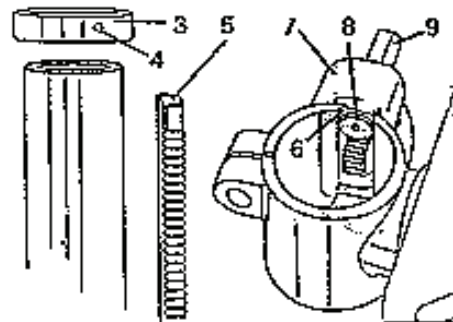

Fig. 4
1. Slacken the setting screw (4) to remove the ring (3).
2. Remove the rack from the column (5).
3. Check the worm gear (8) to see whether it is properly inserted in the bench fastening arm (7) and it touched the gear wheels. The stem (9) should protrude ca 2.5 cm from the box (Fig. 4).
4. Insert the rack (5) in the cross groove (6) of the bench-fastening arm (7) (Fig. 4). The bench fastening arm should be seated in the rack middle section.